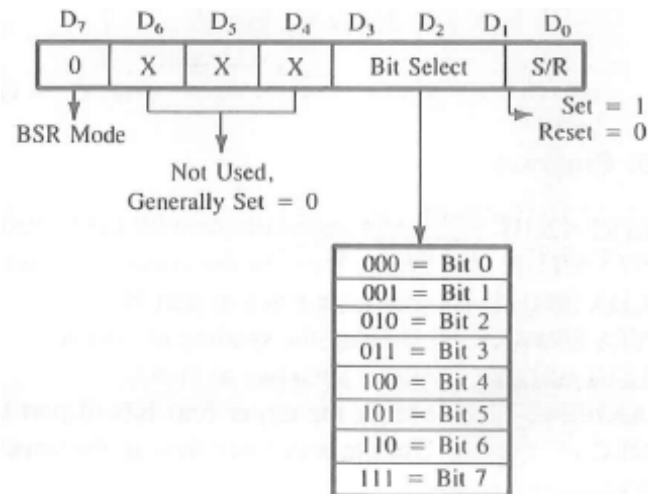

Figure 3.5 8255A Control Word Format in the BSR Mode
- This control word, when written in the control register, sets or resets one bit at a time, as specified in figure 3.5.